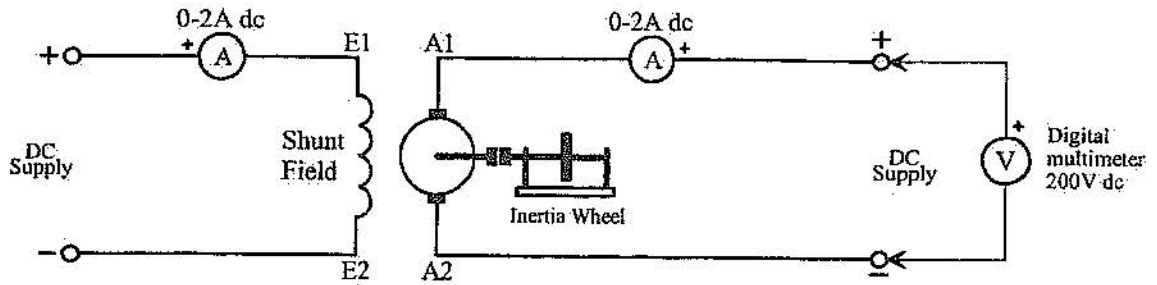

Figure 1
1. Connect the motor as shown in figure 1.
1. Use the same circuit arrangement as that shown in figure 1.